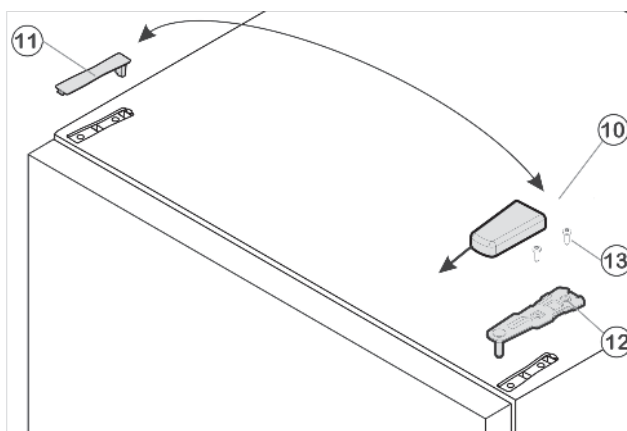

Fig. 17
▶ Pull cover *Fig. 17 (10)* forward and then upwards to remove.
▶ Lift off cover *Fig. 17 (11)*.
▶ Unscrew upper bearing bracket *Fig. 17 (12)* (2 x Torx 25) *Fig. 17 (13)* and pull it upwards to remove.
- ▶ Insert the upper bearing bracket Fig. 17 (12) on the new hinge side into the door.
- ▶ Oberen Lagerbock Fig. 17 (12) **fest mit 3 lb-ft (4 Nm)** anschrauben (2 mal Torx 25) Fig. 17 (13). Schraubblöcher evtl. vorstechen oder Akkuschrauber verwenden.
- ▶ Snap both cover Fig. 17 (10) and cover Fig. 17 (11) into place on the opposite side.